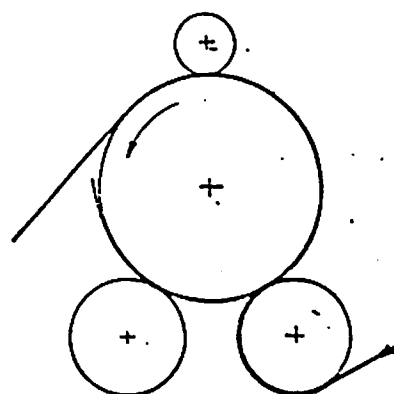

Fig. 3
4. Unwind the broke from the rewinding reel at crawl speed. As soon as the web end is free (fig. 3) stop machine. Tack web end to reel.